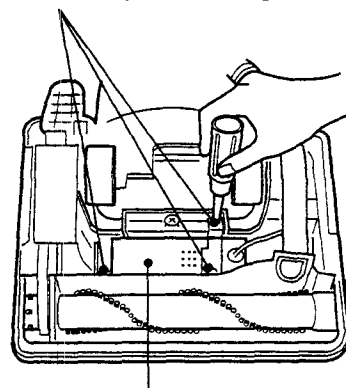

Fig. 22
**1** Remove the headlight mounting screws. (Fig. 22)